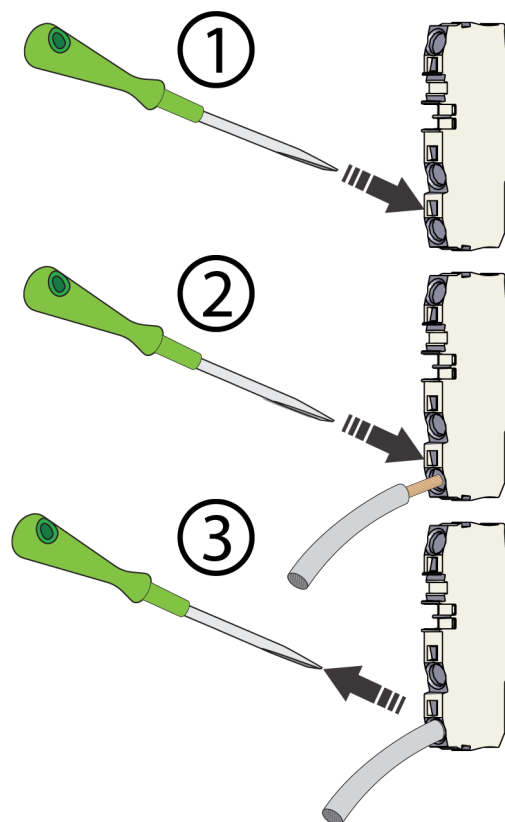

Figure 4
See Figure 4 to follow steps 1 - 3.
- Repeat steps 1-4 in Figure 4 to connect the Control Wires to the +CW1 and -CW1 terminals.
See Figure 4 to follow steps 1 - 4.